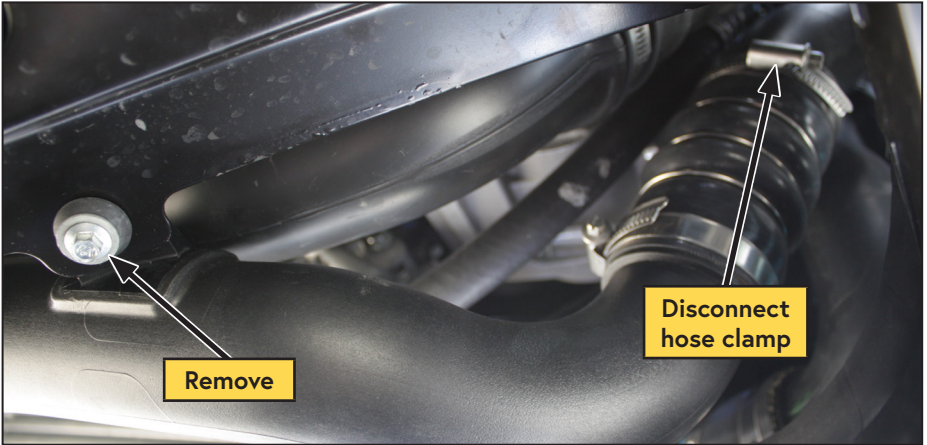

Figure 12 — Remove lower intake tube
- Remove the 2 bolts securing the lower intake tube to the front frame crossmember and the 2 bolts securing the lower intake tube to the upper intake tube (Figure 12).
- Remove the 3 hose clamps securing the lower intake tube and remove the tube from the engine bay (Figure 12).